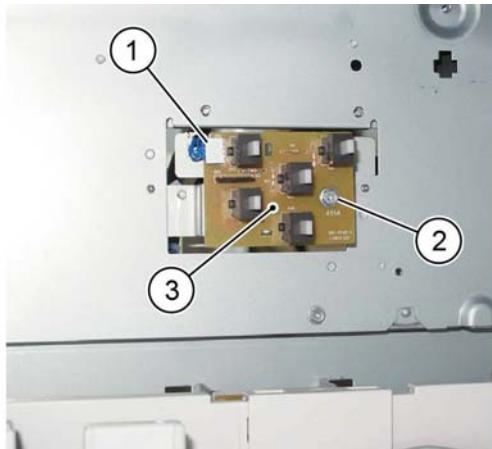

Figure 1 Tray 1 size sensor removal
2. Remove the tray 1 size sensor, Figure 1:
- a. Disconnect the connector (1).
- b. Remove the screw (2).
- c. Remove the tray 1 size sensor (3).